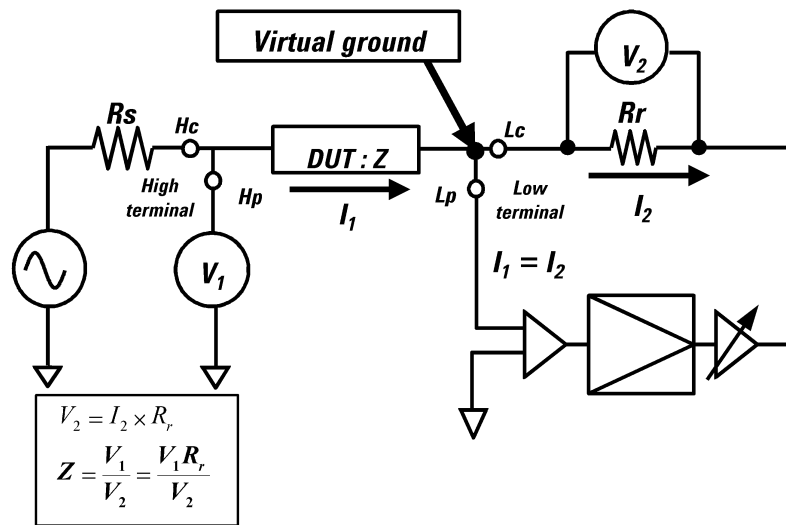
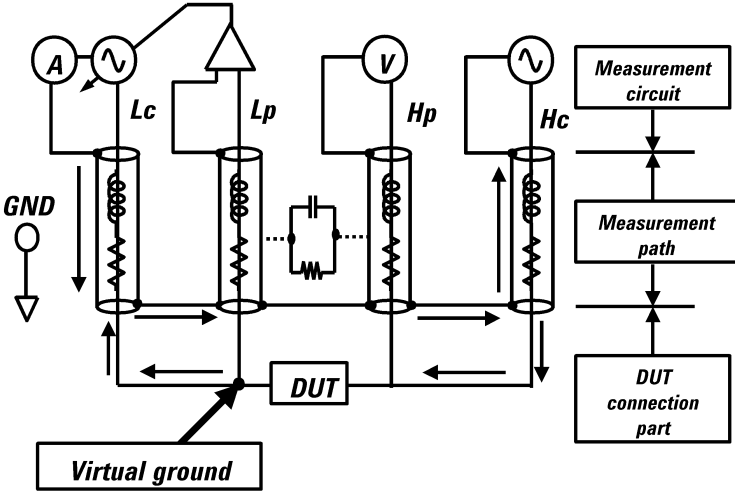

Figure 3. Auto-Balancing-Bridge method
Figure 4. Four-Terminal Pair cable configuration
The 4294A provides the best measurement accuracy and the broadest impedance coverage using the 4TP configuration with the ABB method. (Refer to Figure 4.) Figure 3 shows the circuit diagram of the ABB method. In this circuit, the voltage at the virtual ground point is maintained close to the zero voltage; and the current ( $I_1$ ), which flows through the DUT, goes to the range resistor ( $R_r$ ). The DUT impedance ( $Z$ ) is calculated using a voltage measurement ( $V_1$ ) at the high terminal and a current measurement ( $I_2$ ), which is given as the voltage measurement ( $V_2$ ) at the range resistor.
As shown in Figure 4, at the Hc and Lc terminals, the currents of the inner and outer (shield) conductors are at the same level and flowing in the opposite direction. Therefore, the magnetic flux generated by the inner and outer conductor (shield) cancel each other. At the Hp and Lp terminals, only the difference of voltage between the inner and outer conductor (shield) is detected. The generated electromotive force due to the external magnetic flux at the inner conductor and outer conductor therefore can be eliminated. Consequently, it is possible to measure a wide impedance range without the effect of measurement path length because the magnetic flux generated from the measurement cables and sensitivity to the external magnetic flux are drastically reduced by using the 4TP configuration.
2. The bridge circuit is stabilized by using phase compensation technology. In order to improve the bridge balance stability at high frequencies, the 4294A has a special circuit designed to compensate for the null-loop characteristics, which can vary with frequency and cable length. The null-loop circuit is located at the low terminal, as shown in Figure 3, and adjusts the feedback loop to maintain a zero voltage at the virtual ground.